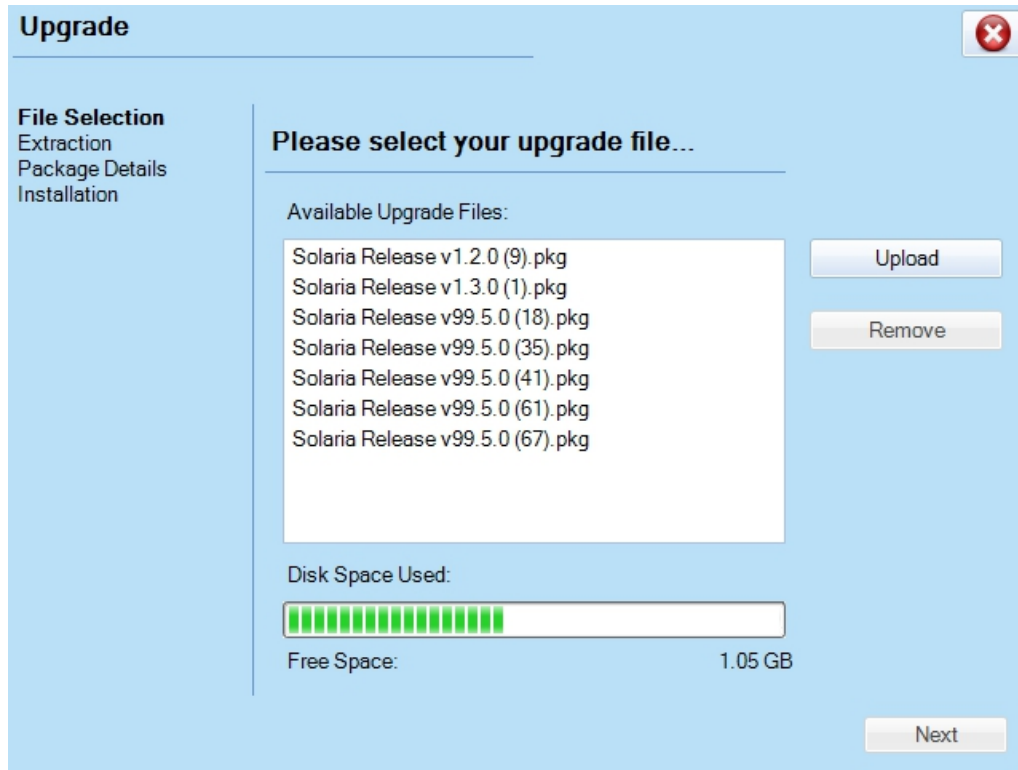

Figure 3-53 Upgrade: File Selection Window
- Insert the USB drive containing the upgrade package into one of the USB ports at the back of the TPC. Open the back cover and reveal the USB ports. Navigate to the **Administrator Setup: Upgrade** window and click the **Upload** button. (Figure 3-53). This launches a file selection dialog for you to navigate and select this file. Once complete, the system automatically advances to the **Extraction** window and begins extracting the upgrade package.
- From an FTP client, enter the projector IP address and enter the user name and password. Once connected, copy the upgrade package from the FTP site to the root folder of the projector. The upgrade package should display in the **Available Upgrade Files** region of the **File Selection** window. (Figure 3-53). Select the upgrade package and click the **Next** button to advance to the **Extraction** window. **NOTE:** *After copying several upgrade packages to the root folder, an alarm will occur if the disk space becomes full. Navigate to the root folder and delete the older upgrade packages. Once removed, copy the current upgrade package again.*